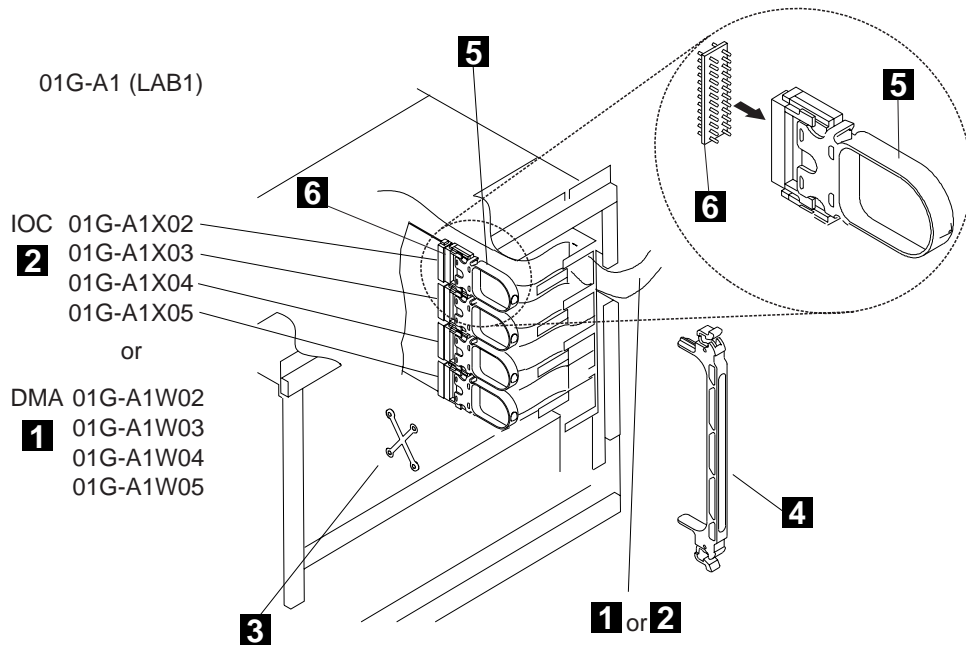

Figure 4-19. DMA and Line Adapter IOC Bus Cable Routing in the 3745 LAB1 Board
- Step 14. \_\_\_\_ Install short retainers **5** (PN 1953188) and four interposers **6** on the IOC bus cables **2**. Make sure the interposers are seated completely flush with the connectors on the cables as it takes considerable pressure to seat them properly (see Figure 4-19).
- Step 16. \_\_\_\_ Maintain cables in raceways using retainers **3** (PN 0813519) see Figure 4-19. They will be definitively clamped when the DMA cables will be installed in the next chapter.
- Step 17. \_\_\_\_ Secure the cable extenders using an intermix bracket **4** (PN 1953110) see Figure 4-19.
- Step 3. \_\_\_\_ Install short retainers **5** (PN 1953188) and four interposers **6** on the DMA bus cables. Make sure the interposers are seated completely flush with the connectors on the cables as it takes considerable pressure to seat them properly (see Figure 4-19 on page 4-20).
- Step 6. \_\_\_\_ Clamp cables in raceways using retainers **3** (PN 0813519) see Figure 4-19 on page 4-20.
- Step 7. \_\_\_\_ Secure the cable extenders using an intermix bracket **4** (PN 1953110) see Figure 4-19 on page 4-20.
- Step 20. \_\_\_\_ Secure the cable extenders using an intermix bracket **4** (PN 1953110) see Figure 4-19 on page 4-20.